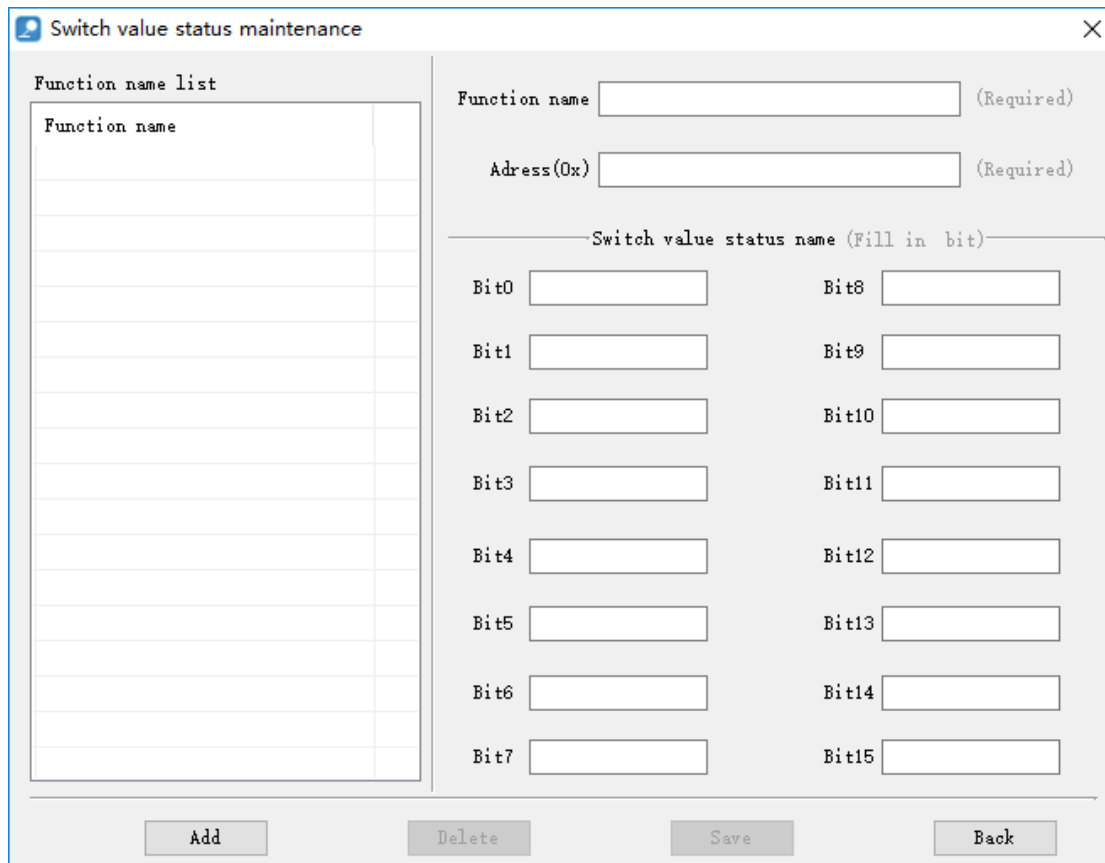

Figure 17
7. State maintenance: clicking toolbar icon , pop-up the status maintenance interface, providing add and delete function of state variables, which facilitates the custom variables of customers, as shown in the following figure 17: